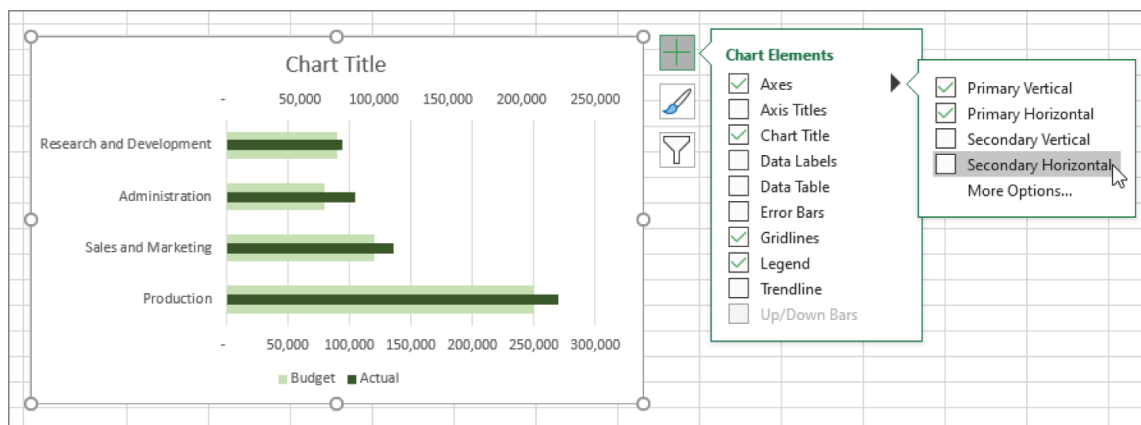

Figure 7.17: Hide an axis using the on-object chart customization buttons.
6. Select the secondary axis and, on the Format Axis task pane, change the Minimum and Maximum values to match the primary axis. Then with the axis still selected, press the Delete key to hide the secondary axis. You can also use the on-object chart customization buttons to unselect the secondary axis as shown in Figure 7.17.